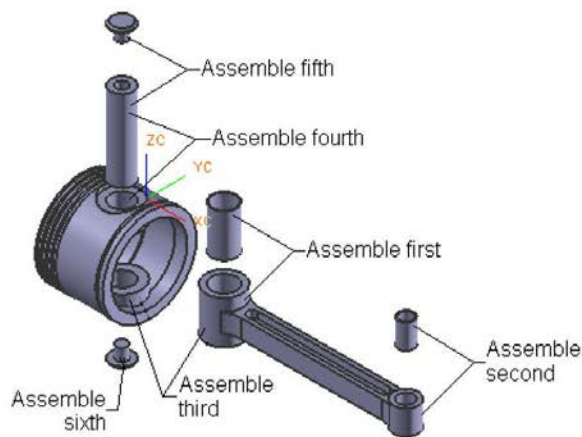
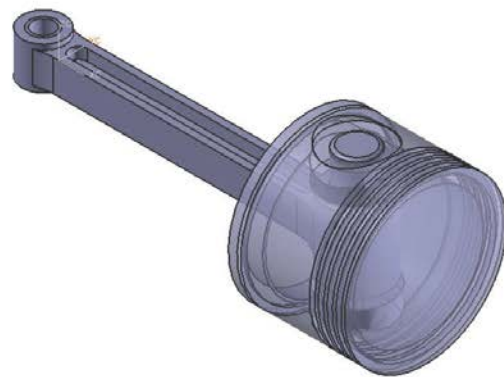

Figure 9-62 Sequence for assembling the components to create the sub-assembly
Figure 9-63 The sub-assembly after assembling the Rod Bush Lower, Rod Bush Upper, Articulated Rod, Piston, Piston Pin, and Piston Pin Plug
- b. Start a new file and create the sub-assembly, refer to Figures 9-62 through 9-64.
2. Assemble the components in the sequence as illustrated in Figure 9-62. The assembly after assembling the Rod Bush Upper, Rod Bush Lower, Piston, Piston Pin, and Piston Pin Plug is shown in Figure 9-63.
2. In Figure 9-63, the solid texture of the Piston has been changed to the transparent texture. This is done to view the components that are assembled inside the Piston. To change the texture of the Piston from solid to transparent, select the Piston from the drawing window and then invoke the **Edit Object Display** dialog box. Next, move the **Translucency** sliding bar to the value of 75 and then choose the **OK** button from the **Edit Object Display** dialog box. Note that the transparency value of the object ranges from 0 to 100.